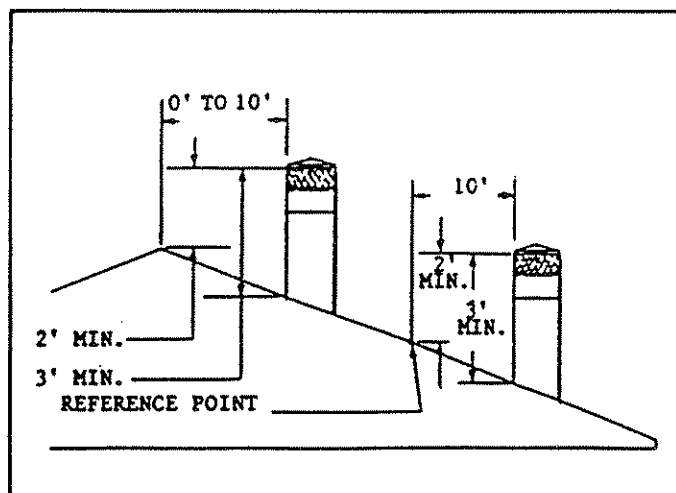

FIGURE 9
WARNING: Major U.S. building codes specify minimum chimney and/or vent height above the roof top. These minimum heights are necessary in the interest of safety. These specifications are summarized in the **Ten Foot Rule** (See Fig. 9). The key points of this rule are:
2. If a horizontal distance from the edge of the vent or chimney to the peak of the roof is more than 10 feet, a vent or chimney height reference point is established that is on the surface of the roof a distance of 10 feet from the edge of the vent or chimney in a horizontal plane. (See Fig. 9) The top of the vent or chimney must be at least 2 feet above this reference point, but never less than 3 feet in height above the highest point where it passes through the roof.